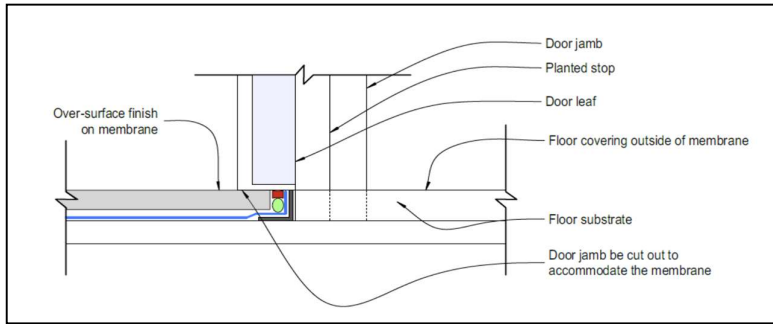

Figure 20: Face of door jamb with water-stop under door
- ✓ Figure 20: Face of door jamb with water-stop under door